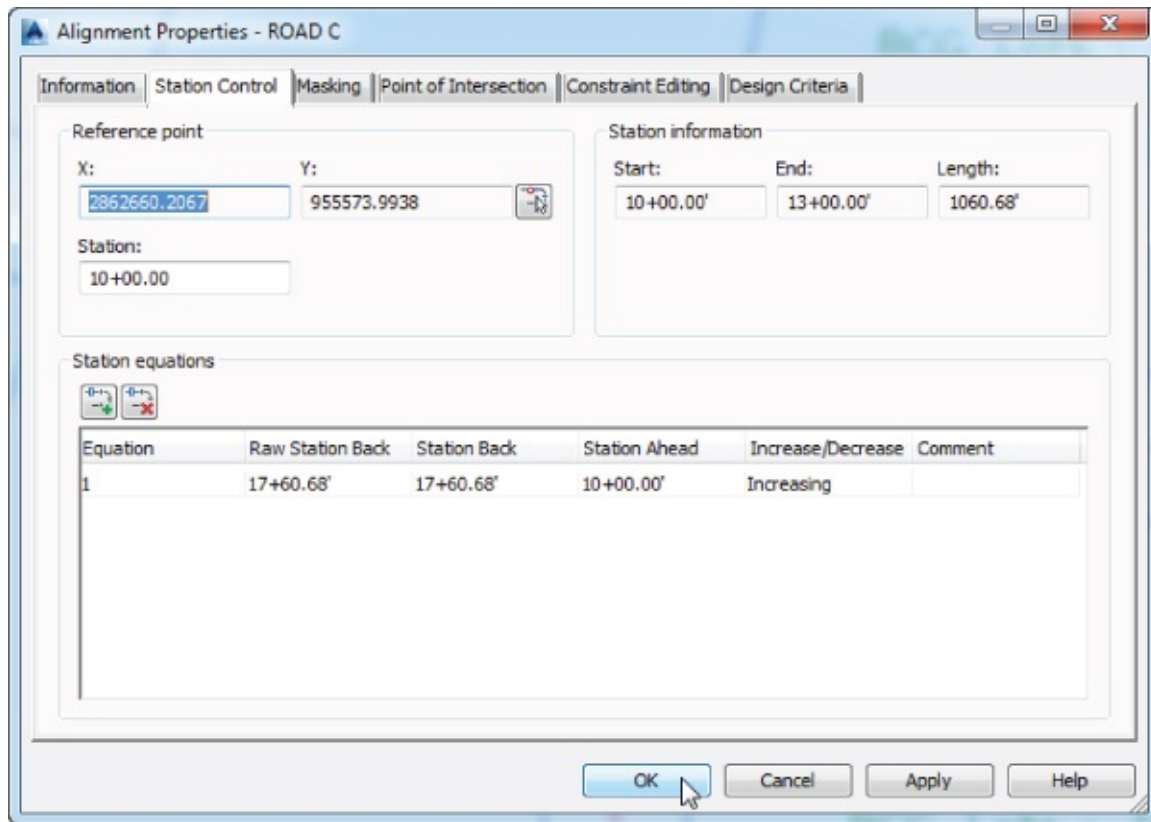

Figure 6.45 ROAD C station equation in place
17. Click the Apply button, and notice the change in the Station Information section, as shown in Figure 6.45.